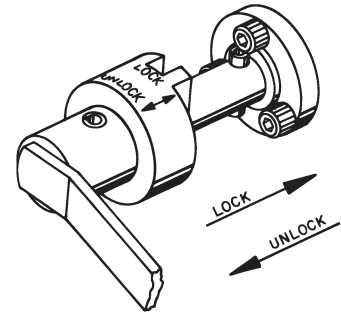

Figure 5
1. Verify the handle locking mechanism on the engine stand is engaged before mounting an engine. Refer to Figure 5.
To ensure engine stability in all positions, this repair stand is equipped with a positive-crank handle locking mechanism. See Figure 5.